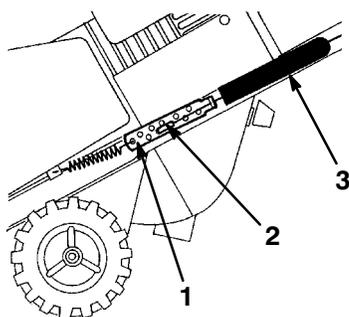

Figure 14
- B. Slide the spring cover up the cable to expose the cable adjuster (Fig. 14).